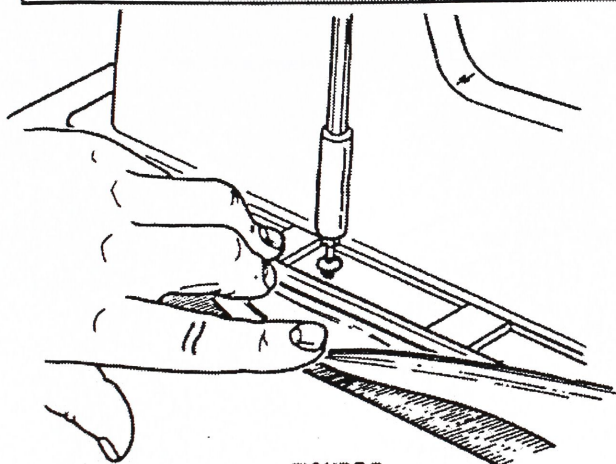

FIGURE 7
4. Using an electric drill and a 3" phillip tipped extension, install a self-drilling screw through the dimple into the metal door below. (See Figures 7 & 8.)